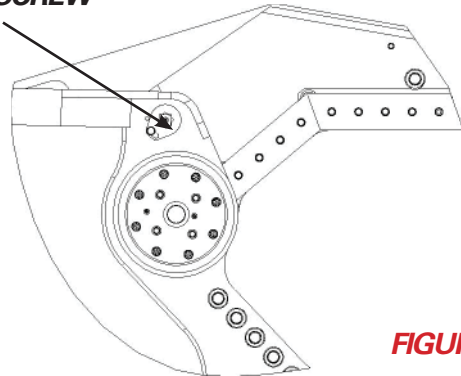
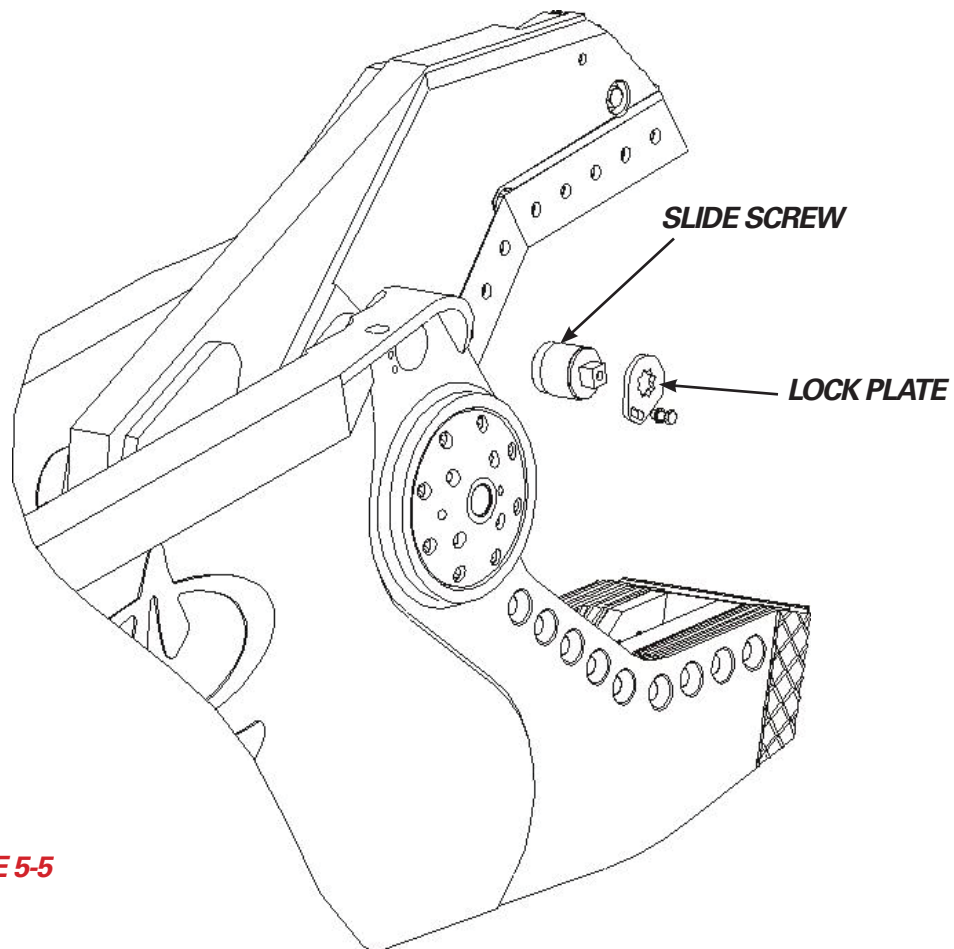

FIGURE 5-3
FIGURE 5-5
1. See **Figure 5-3**. To check and/or replace the slide screw, remove the bolts and lock plate (see **Figure 5-5**, page 5-13). Use a crescent wrench on the square end of the slide screw and turn it clockwise to adjust, counterclockwise to remove.